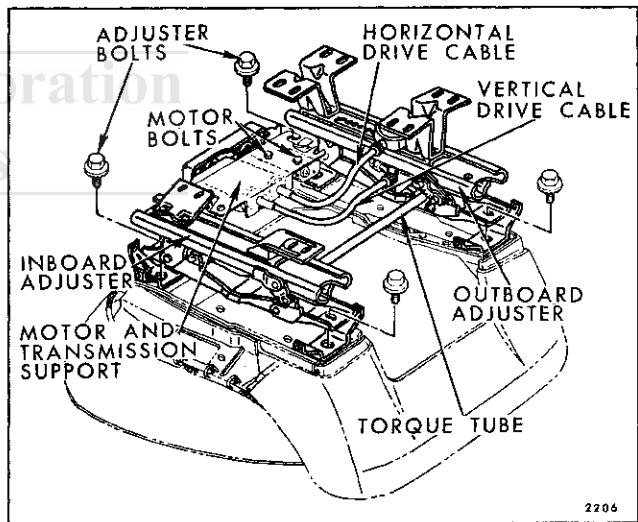

Fig. 15-45—Four-Way Bucket Seat Assembly
- If outboard adjuster is being removed, disconnect both, horizontal and vertical, drive cables from vertical gearnut and horizontal actuator (Fig. 15-45).
- Remove adjuster-to-seat bottom frame front and rear attaching bolts securing adjuster to be removed (Fig. 15-45).
2. Disengage torque tube from outboard adjuster (Fig. 15-45 and 15-46) and remove torque tube assembly.